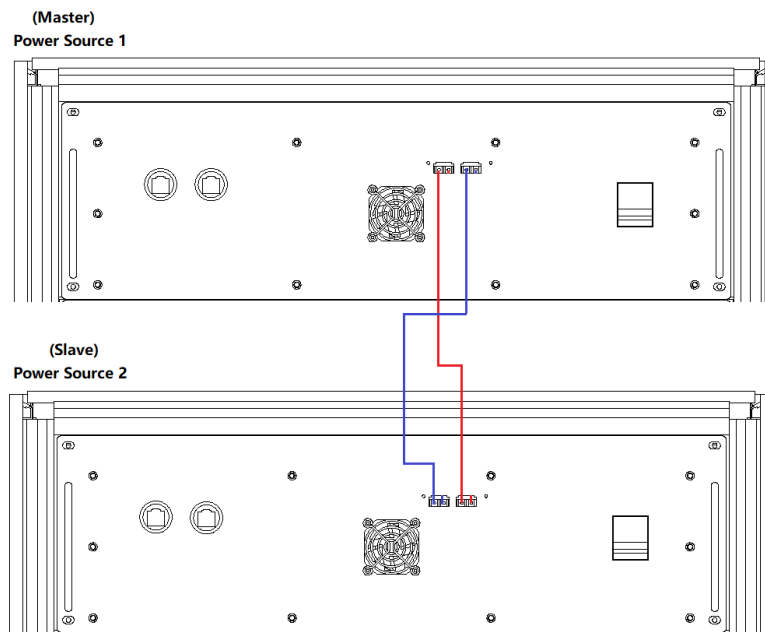

Figure 1-25 Optical fiber cable wiring diagram
Step 2: As shown in Figure 1-25, connect the optical fiber cables of the power supply.